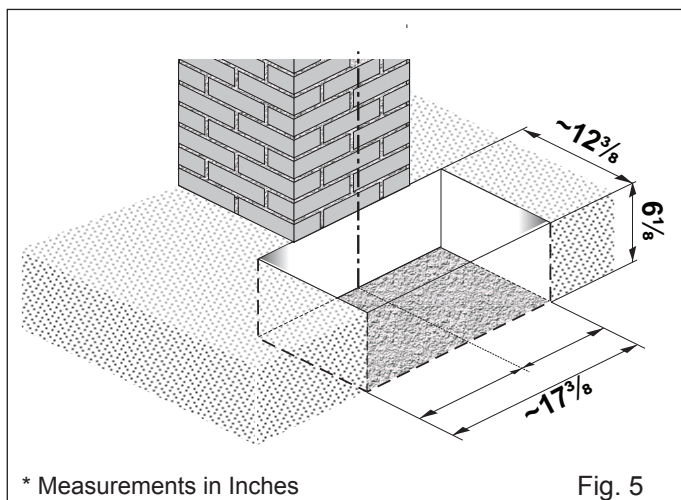

Fig. 5
1. Dig a hole for the foundation box as shown in Fig. 5.